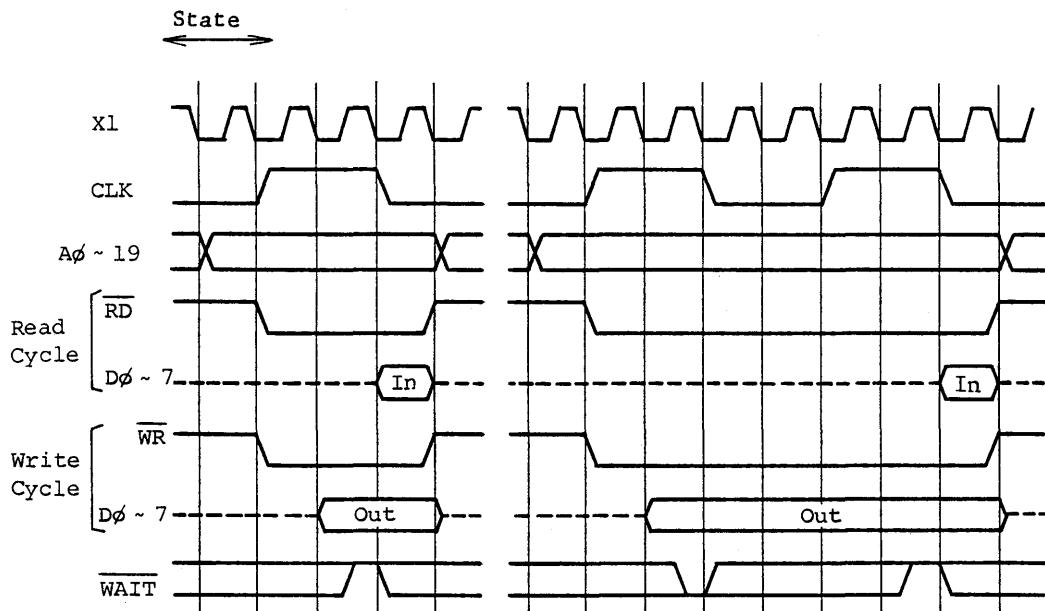

Fig. 3.2.(1) Timing of External Memory Read/Write Cycles
Fig. 3.2.(1) is a timing chart of external memory read/write cycles. The left side shows the bus operation timing with no wait request, and on the right side shows that with a 2-state wait request. Each wait consists of a multiple of two states, making a bus cycle wait for two, four, six, eight states, etc. ...
The TMP90C840 CPU has a wait control register (WAITC) that controls waits by using software. The configuration of this register is shown in Fig. 3.2 (2).